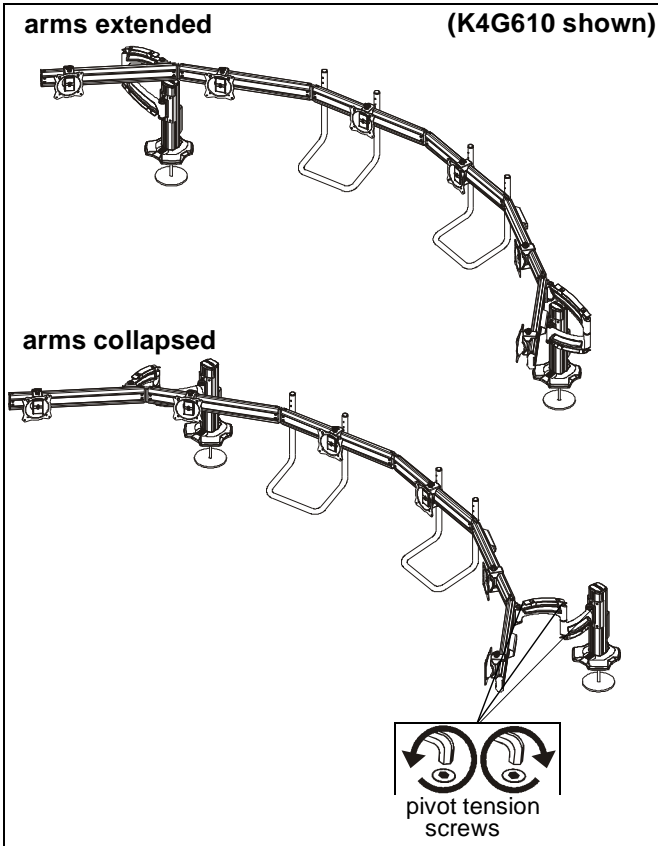

Figure 15
1. Use handles (EE) to extend or collapse column arms as desired. (See Figure 15)
2. (Optional) Loosen or tighten column arm pivot tension screws as desired to increase or decrease pivot tension. (See Figure 15)